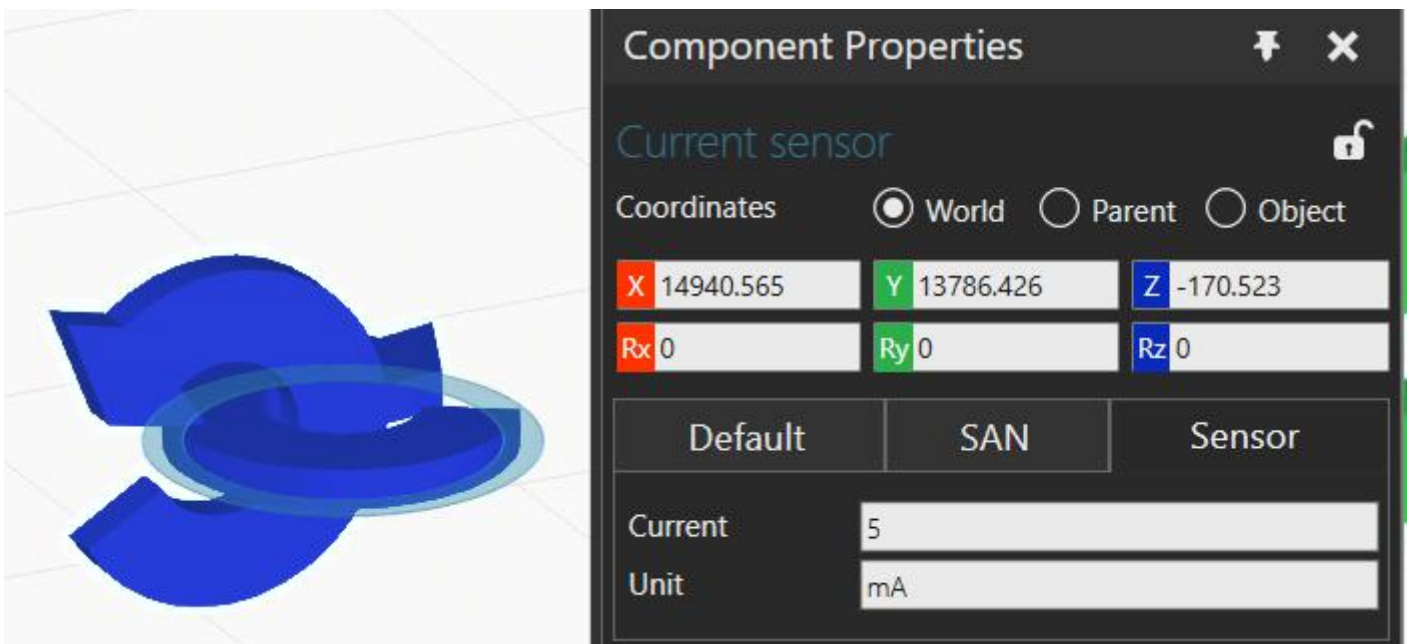

Figure 4. Screenshot of the *current* sensor configuration tab.
**Current** Simulates a current sensor. It can be also configured in the properties tab as shown in Figure 4.